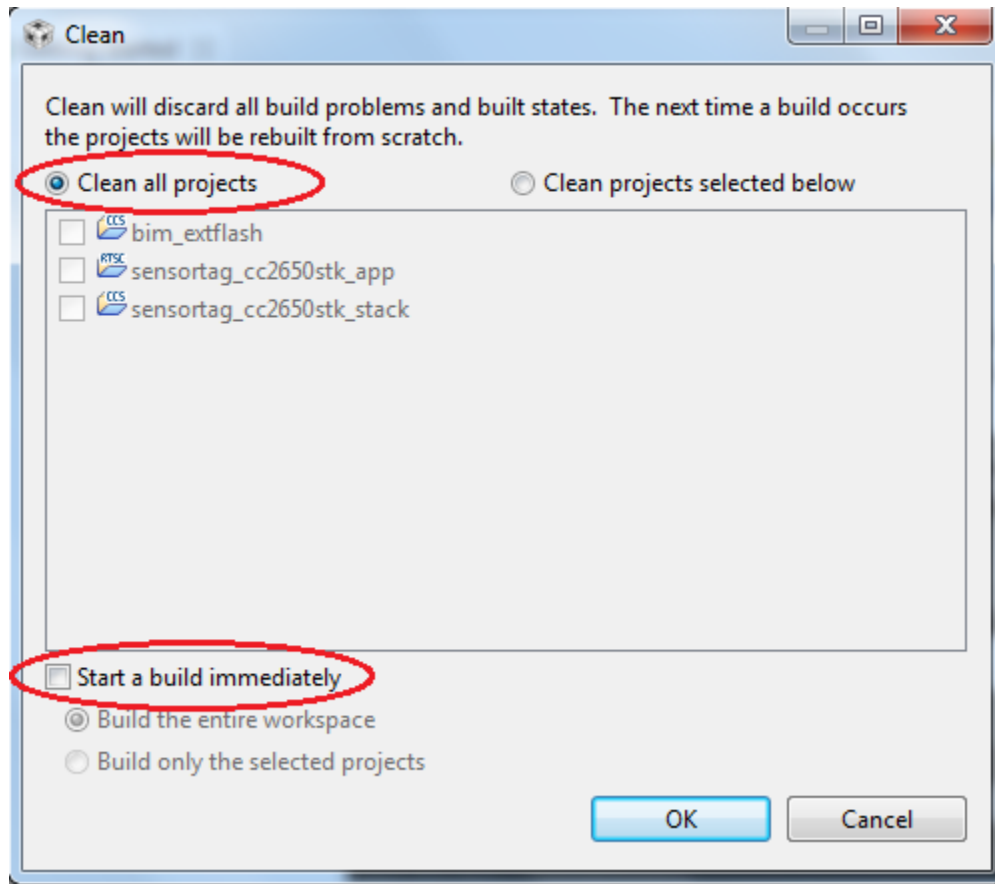

Figure 32, Clean Projects Screen.
- b. The Clean form should appear (Figure 32).